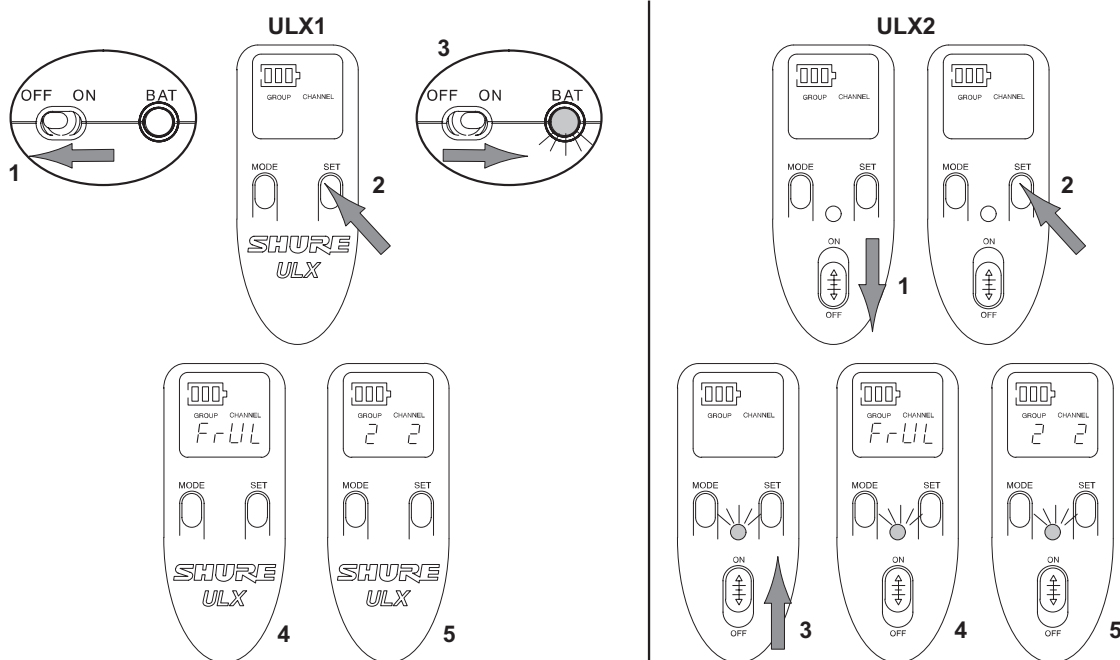

FIGURE 34
1. Refer to Figure 34. Slide the transmitter power switch to the OFF position and wait for the display light to turn off.